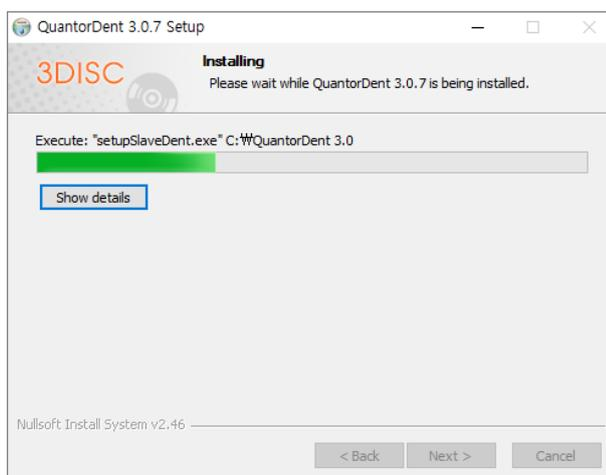

Figure 2.6 Installation Status Dialog Box
11. Installation status will be displayed as shown in Figure 2.6.